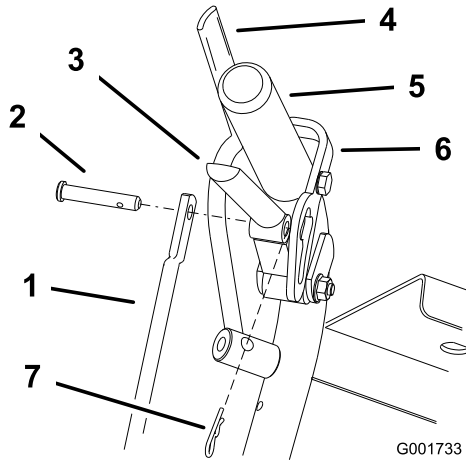
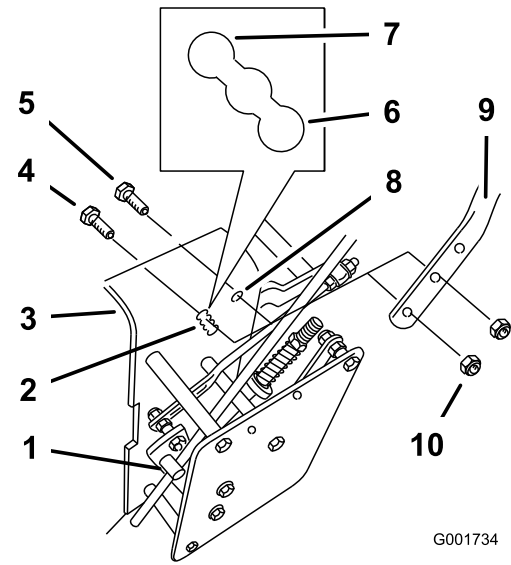

Figure 18
Figure 19
1. Remove the hairpin cotter pins and clevis pins from the drive levers and neutral locks (Figure 18).
2. Loosen the upper flange bolts (3/8 x 1-1/4 inches) and flange nut securing handle to rear frame (Figure 19).
3. Remove the lower flange bolts (3/8 x 1 inch) and flange nuts securing handle to rear frame (Figure 19).
5. Adjust the control rod length by rotating the control rod in the rod fitting (Figure 18 and Figure 19).
6. Install hairpin cotter between drive levers and neutral locks and into clevis pins (Figure 18).